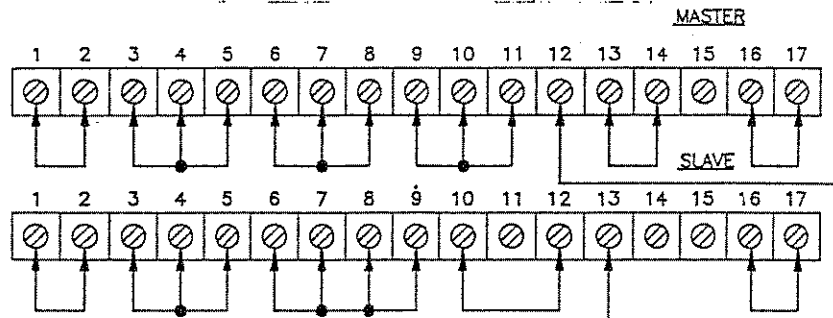

Figure 10. Parallel Operation, Master/Slave
3.3.8 PARALLEL OPERATION - MASTER/SLAVE (Figure 10)